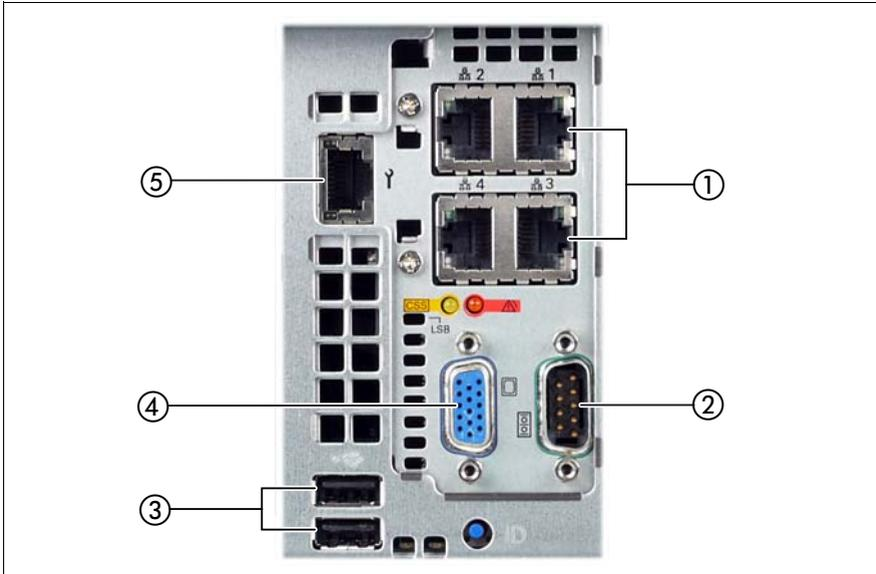

Figure 9: Connectors on the rear
**i** The two video connectors on the front and rear (see figure 9 on page 54) can only be used alternatively; the connector not used is automatically deactivated.